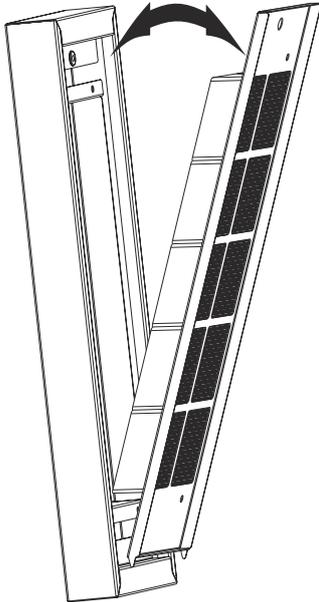

Fig. 8
3. → Remove the active carbon filter (Fig. 8).